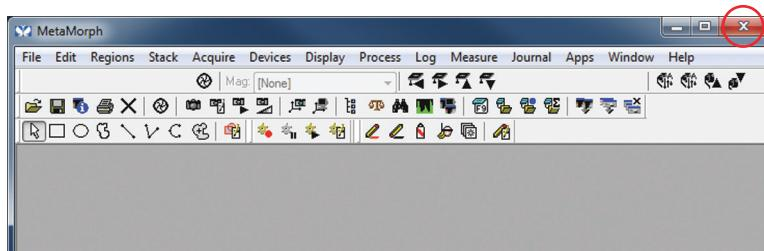

Figure VI-25. Close the MetaMorph Program
6. Click the “X” to separately close the MetaMorph program, as shown in Figure VI-25.